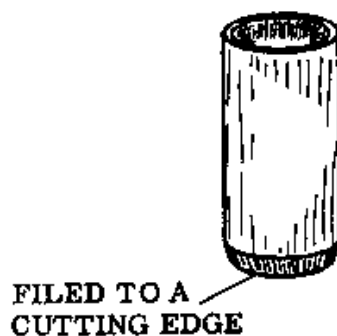

Fig. 3
- The roofing felt can be cut with an iron pipe that has been filed to a cutting edge at one end (Fig. 3).